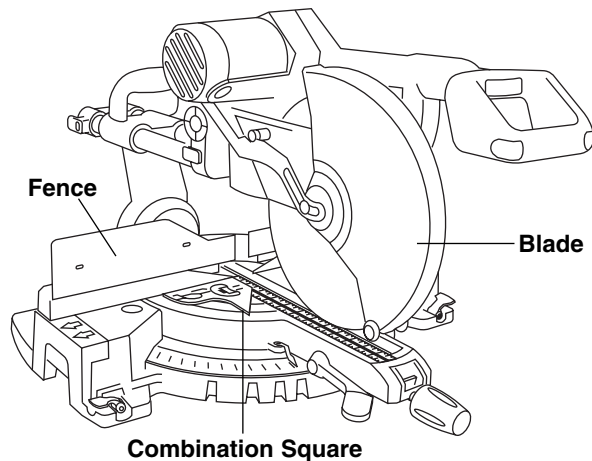

Figure 9. Blade Square to Fence
2. Lower the head assembly, pull the lock pin out and rotate it 90°, rotate to lock the head assembly in the down position. Make sure table is in 0° detent and tighten miter lock knob. Place a combination square against the fence and next to the blade as illustrated. Locate the square properly so it does not contact the tooth of saw blade. The saw blade should contact the full length of the square (Figure 9).